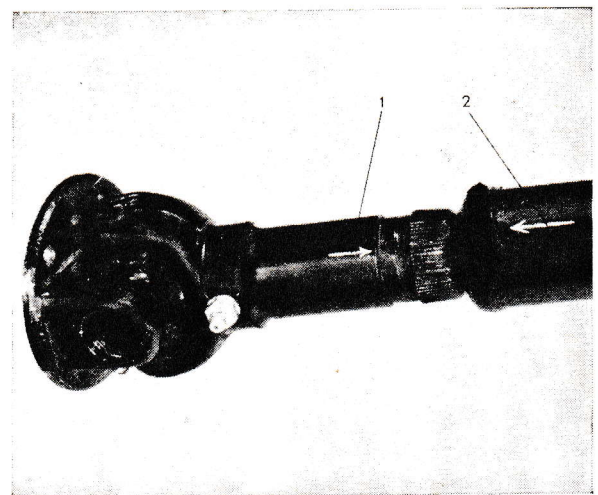

Fig. 12. Assembling universal joint. Assemble universal joint with the arrows exactly opposite each other.
When *installing* propeller shaft, check that the balance arrows, fig. 12, are exactly opposite each other and that only undamaged lock plates are used to lock the nuts. Connect parts according to punch-marks.
NOTE. When pushing front universal joint, on rear propeller shaft check that the arrow (1, fig. 12) stamped on the universal joint is placed exactly opposite the arrow (2) on shaft. If not, vibration will occur when propeller shaft revolves.